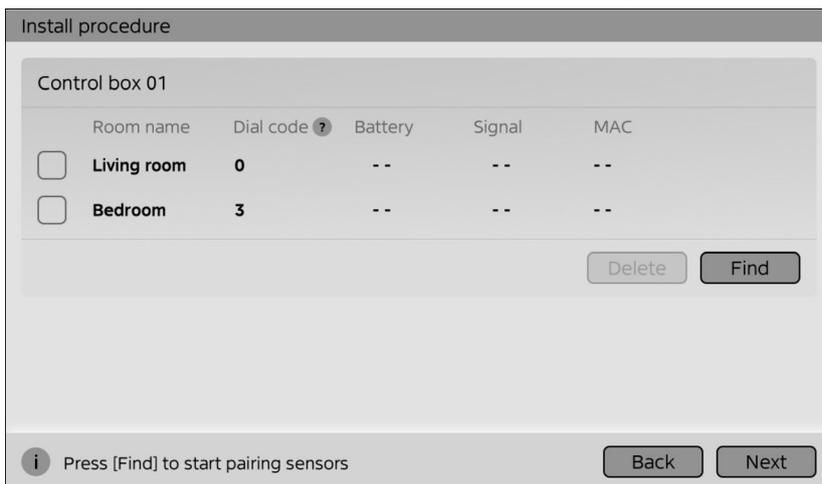

Fig 1.7
- Press **[Find]** to start finding Zone Sensor. There can be only one zone control box at pairing mode at the same time. (Fig 1.7).